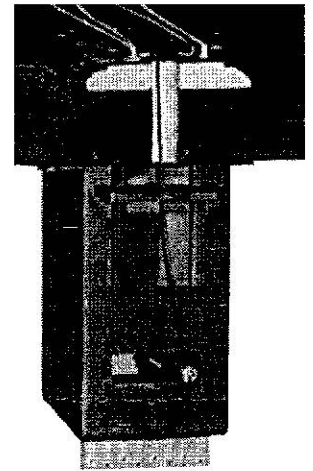

FIGURE 1.
1. Prepare the spring wire by gripping it with pliers 1/8" from one end and make a sharp 75-80 degree (nearly right angle) bend. At a point 3/4" away from the initial bend, make an additional 15 degree bend in line with the first. Figure 1 is full size and may be used as a guide.